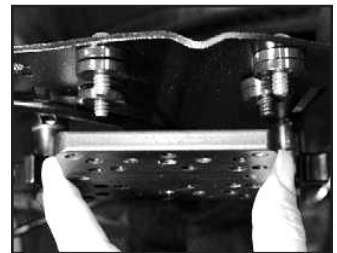

Fig. 80
3. Partially thread the screw onto the plate but do not tighten. Fig. 80